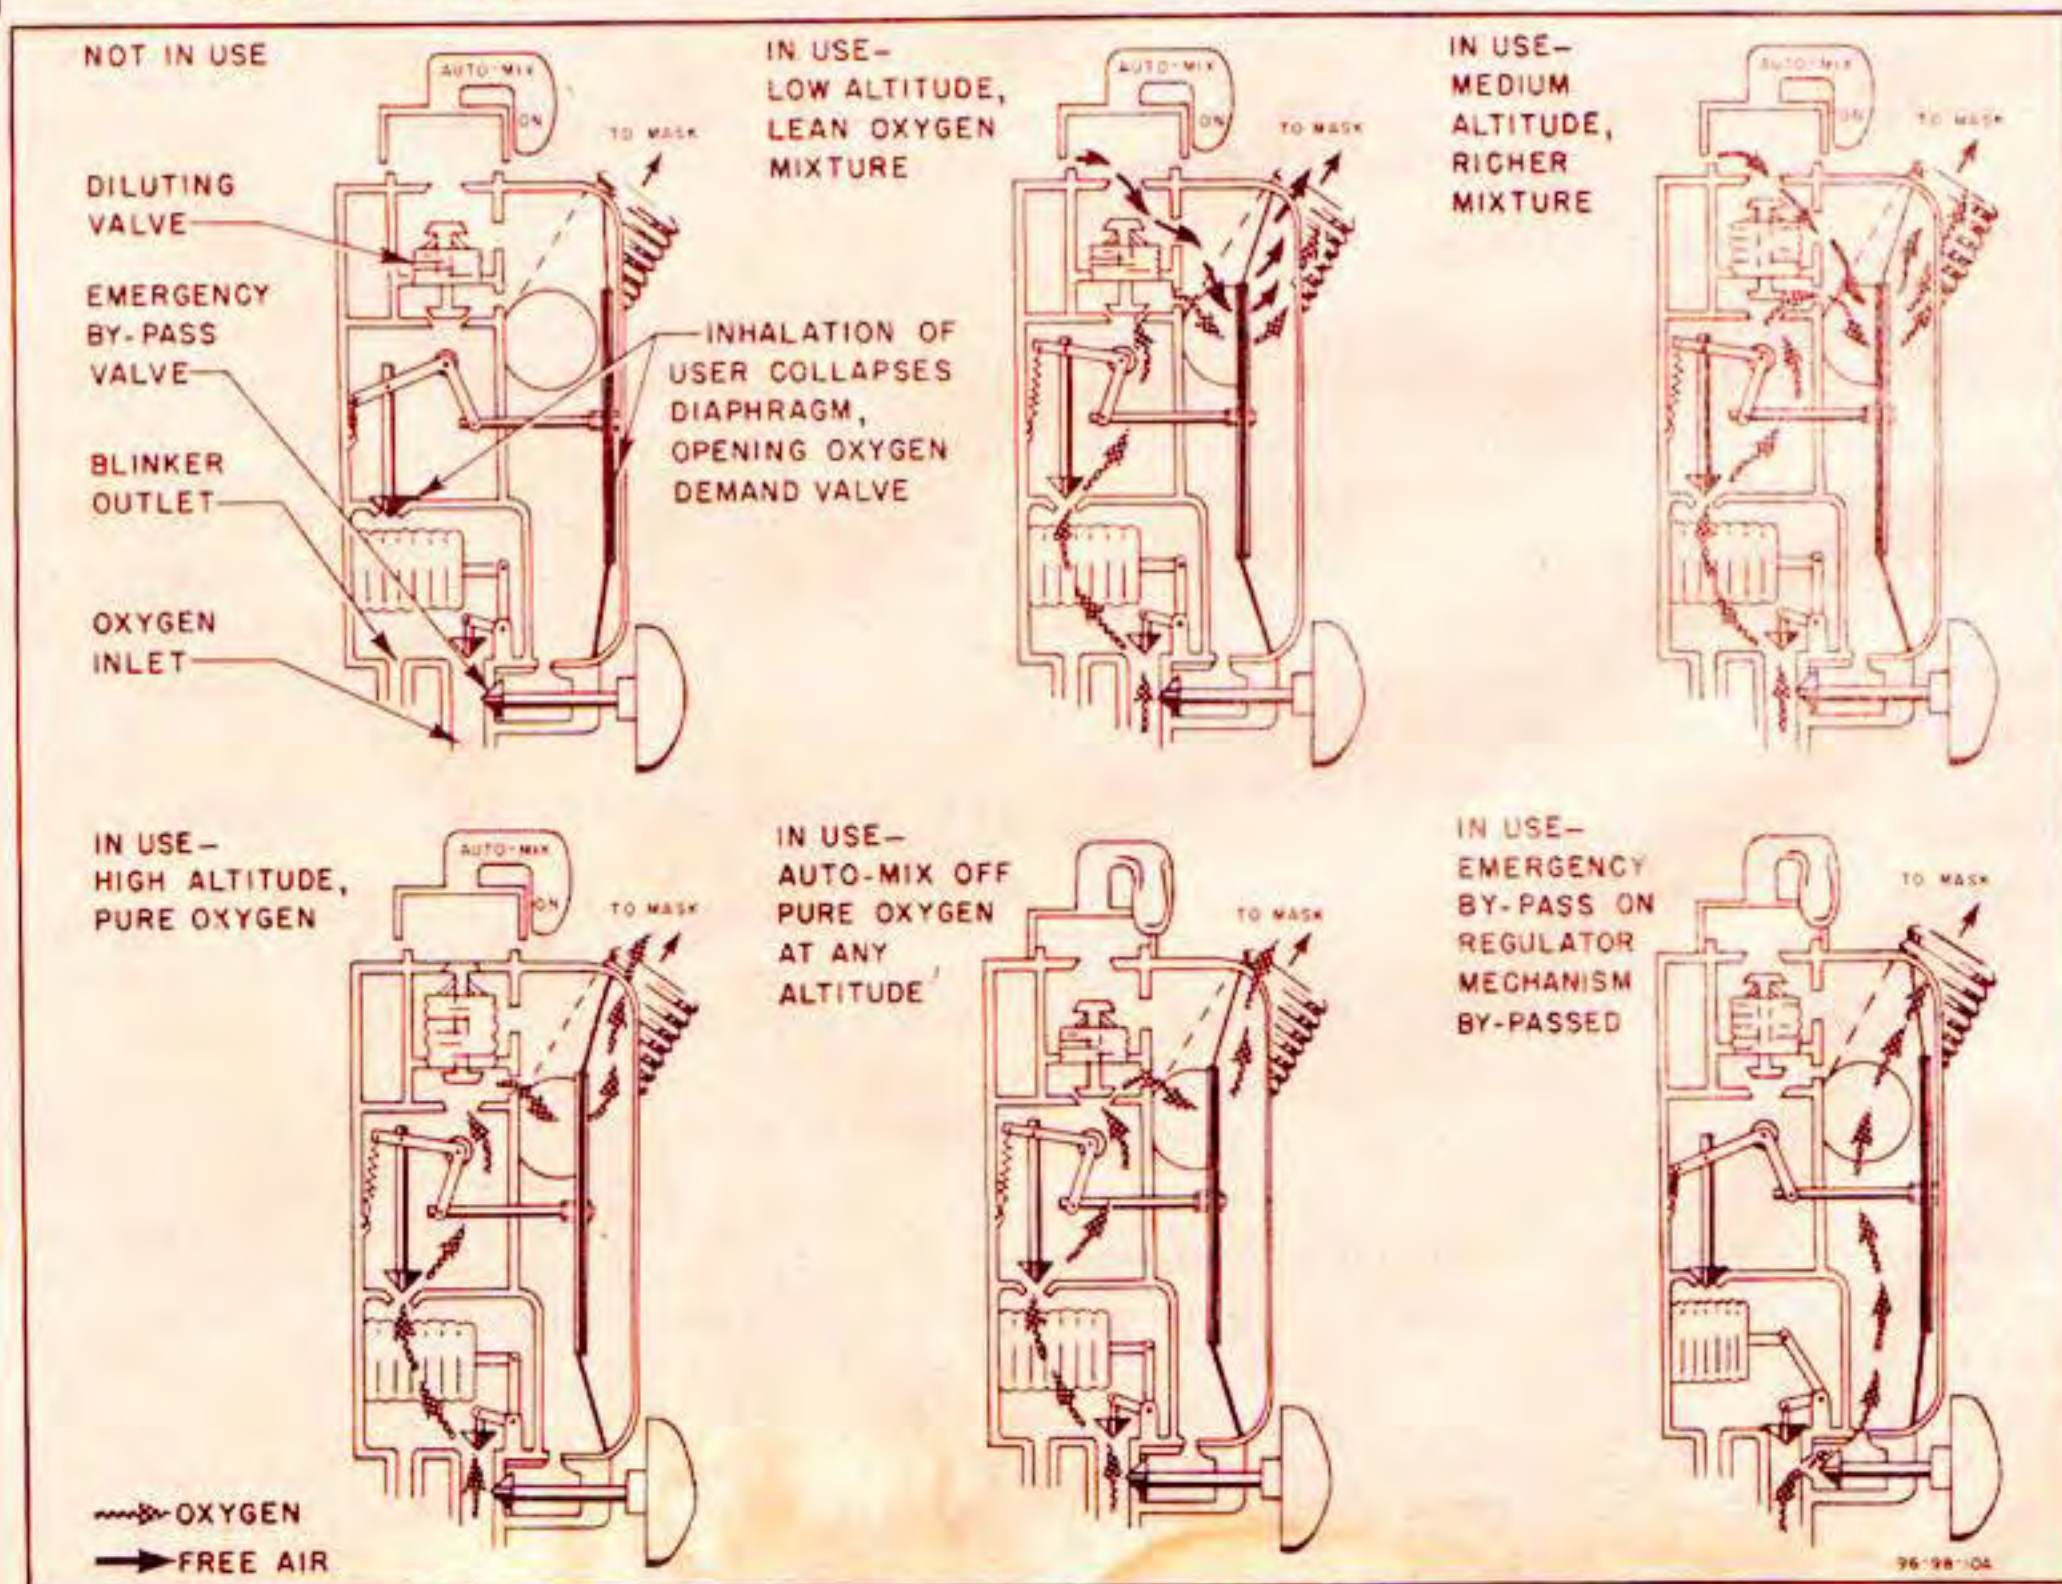

Figure 454—Oxygen Regulator Diagram
(1) DESCRIPTION.—The oxygen system employs a Type AN6004 demand regulator which automatically controls the flow and dilution of the oxygen. (See figure 454.) The regulator is installed on the right side of the cockpit, just aft of the instrument panel. A diaphragm actuates a valve which permits oxygen to flow through the regulator, where it mixes with free air in varying amounts in accordance with barometric pressure. A control permits the user to close the air intake, thus causing pure oxygen to flow to the mask. A red knob actuates an emergency valve which causes pure oxygen to by-pass the entire regulator mechanism. Another valve automatically shunts oxygen into the blinker flow indicator as the demand valve operates.